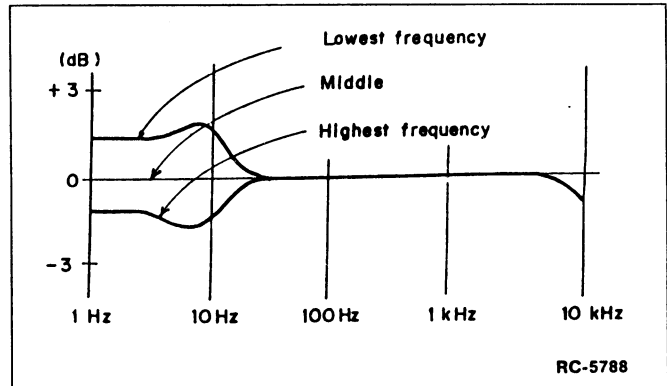

FIGURE 5 - TYPICAL MODULATION FREQUENCY CHARACTERISTICS
4. Change the carrier frequency to the highest channel and then to the lowest channel. Check the modulation flatness each time (refer to Figure 5).